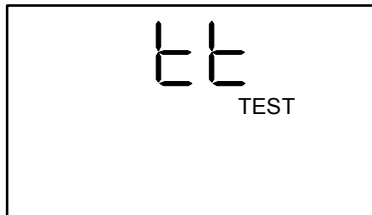

Figure 24. Test Tone Display Screen
3. Press the **TEST OPTIONS** button two times to activate the Test Tone display screen. It should look like Figure 24.
4. Press the **TEST OPTIONS** button two times to activate the Test Tone display screen. It should look like Figure 24 on page 34.